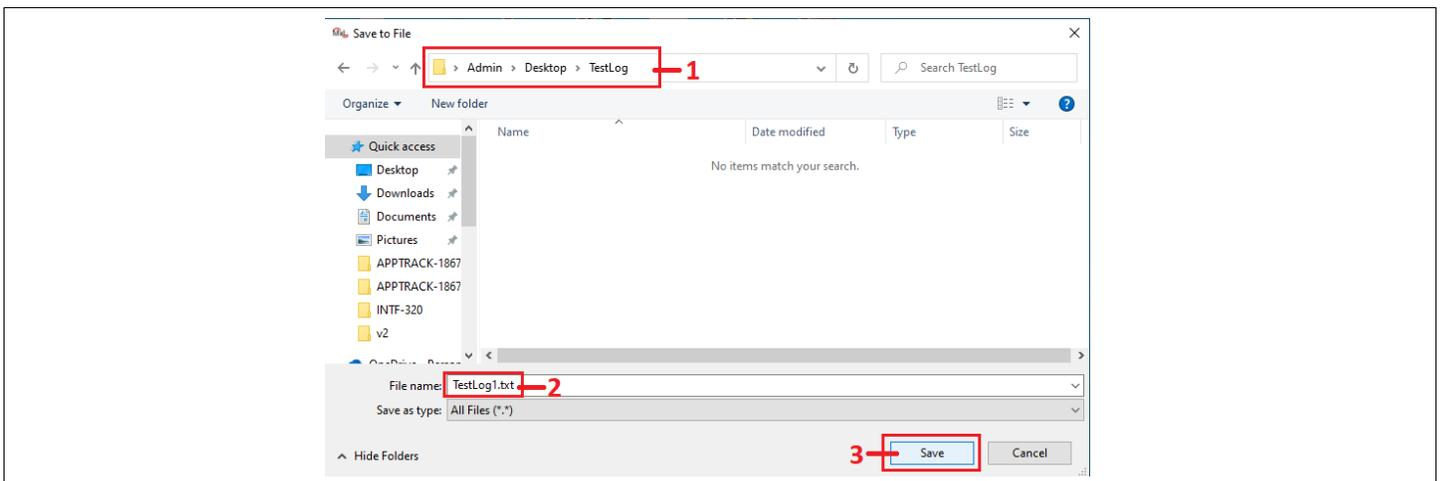

Figure 13: Save Config—Save to File
| Figure 13: Save Config—Save to File | 9 |
- a. Set the path for the intended log file as shown as item 1 in Figure 13.
- b. Set the file name for the intended log file as shown as item 2 in Figure 13.
- c. Click **Save** button as shown as item 3 in Figure 13.